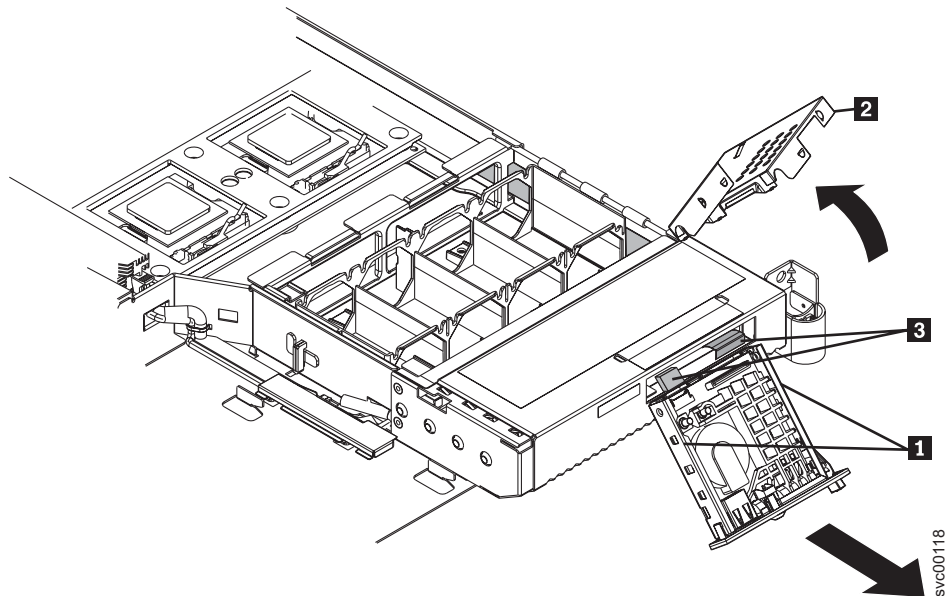

Figure 119. SAN Volume Controller 2145-8F2 with exposed operator information panel
5. Use a small screwdriver to push in the retention springs **1** on the sides of the operator information panel assembly. See Figure 119.